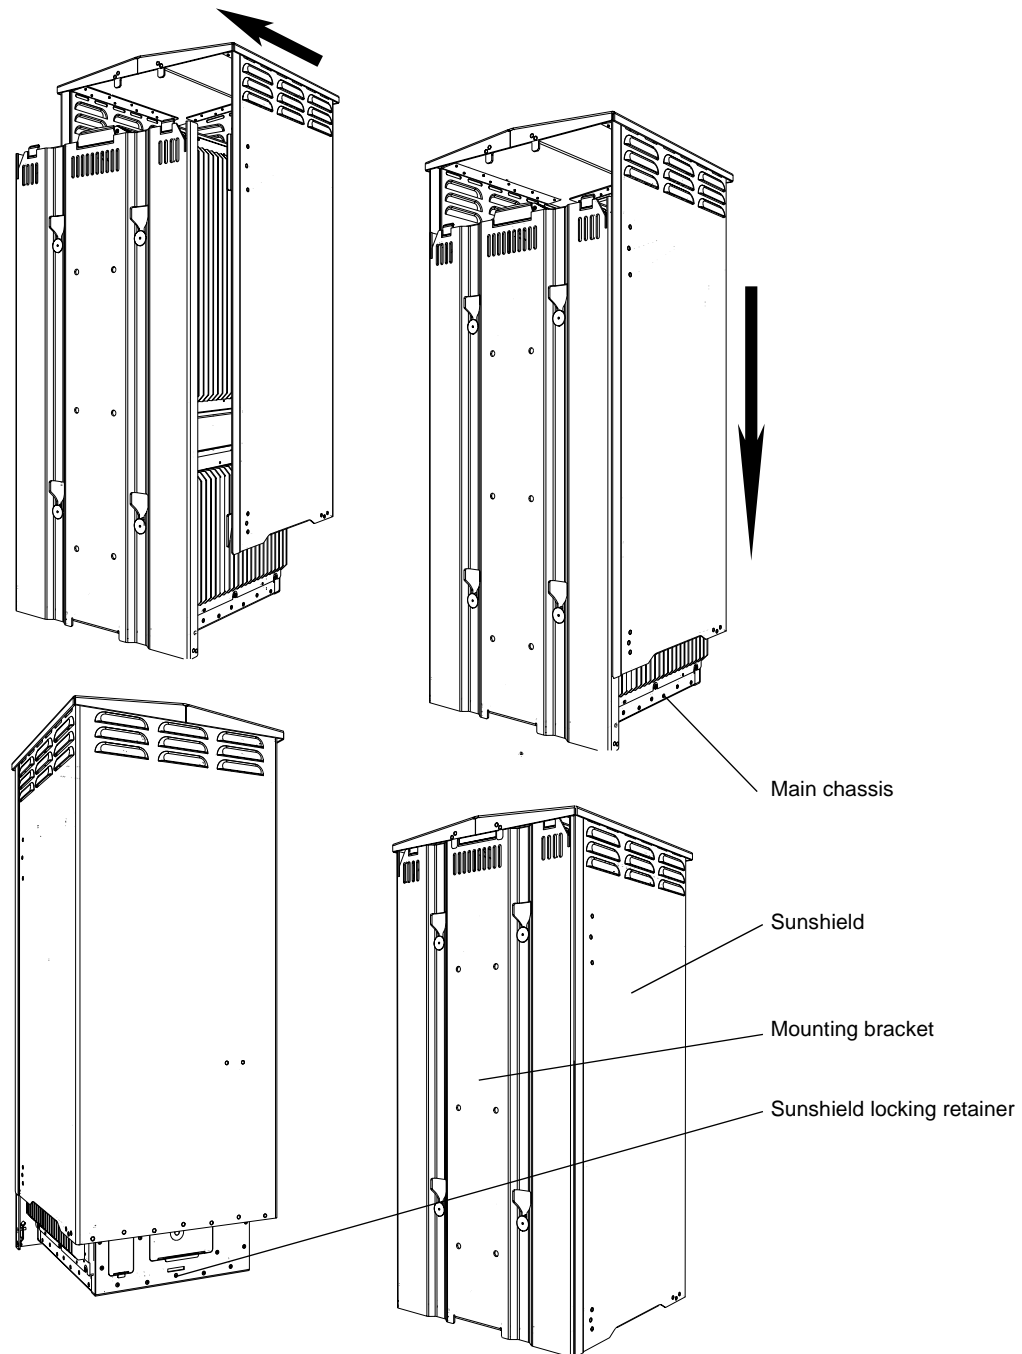

Figure 4-13 Sunshield Installation
3. Slide the sunshield over the main chassis, inserting the side edges of the mounting bracket into the guides on the sides of the sunshield. See Figure 4-13 on page 4-20.